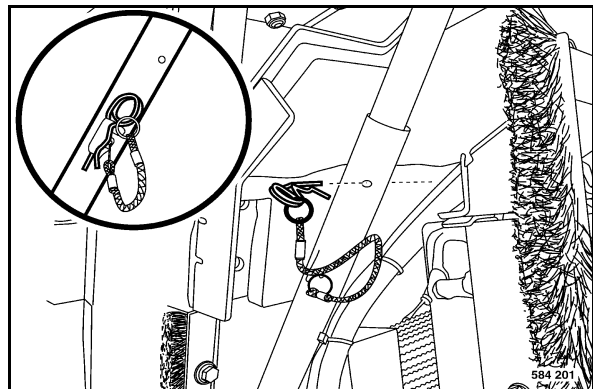

Fig. 162
- Open the engine hood (Fig. 162) completely and secure it.